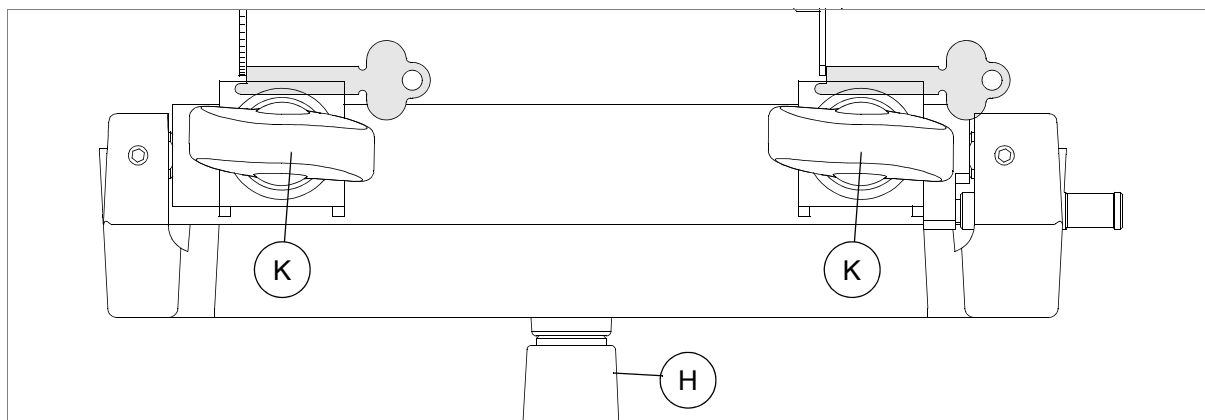

Fig. 51
- 3) Insert the original key into the right-hand clamp, using the end of the bit (towards the tip) as a reference against the tracer point (fig. 51).
- 6) Raise the carriage with the handle (H) and take the cut key into contact with the tracer point to complete cutting.
- 7) Take the carriage back with the handle (H), go on to the next cutting position and continue from point 6.
- 8) When cutting is finished, turn off the switch (U) and remove the keys.